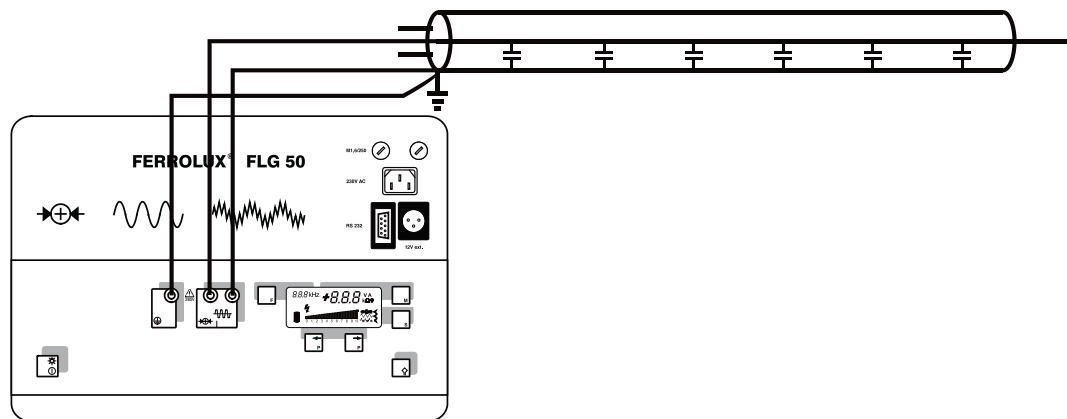

Figure 6 : Capacitive Coupling without Connection at the Far End
2. When testing at close range, i.e. if only a short near-by section of the cable route shall be tracked down, it is sufficient to use the easy-to-handle method of capacitive coupling as shown in Figure 6. In this event you need not make any connection to ground or cable shield at the far end. The distance range covered by this method is approx. 70 % of the entire cable length. We advise to use frequency 8440 Hz when working with this method.